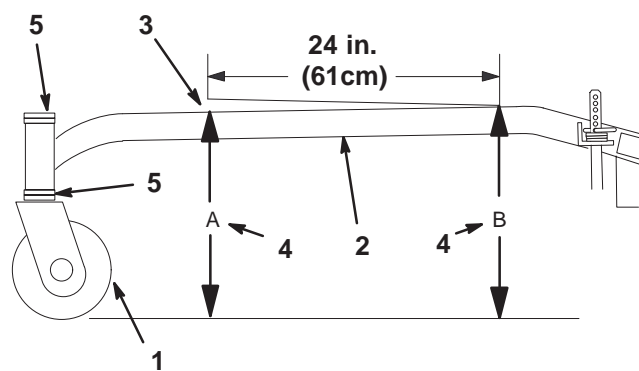

Figure 62
The carrier frame must have a pitch of a 1/4 inch (6 mm) over the length of 24 inches (61 cm) on the carrier frame (Fig. 62).
- Measure out 24 inches (61cm) on the carrier frame (Fig. 62).
- Measure carrier frame height at location **A** (Fig. 62).
- Measure carrier frame height at location **B** (Fig. 62).
- The height at location **A** must be a 1/4–3/8 inch (6 mm –10 mm) lower than location **B** (Fig. 62).
- If the carrier frame is not correct, move caster spacers to make it a 1/4–3/8 inch (6 –10 mm) pitch (Fig. 62). Move spacers from top or bottom to make the correct pitch.